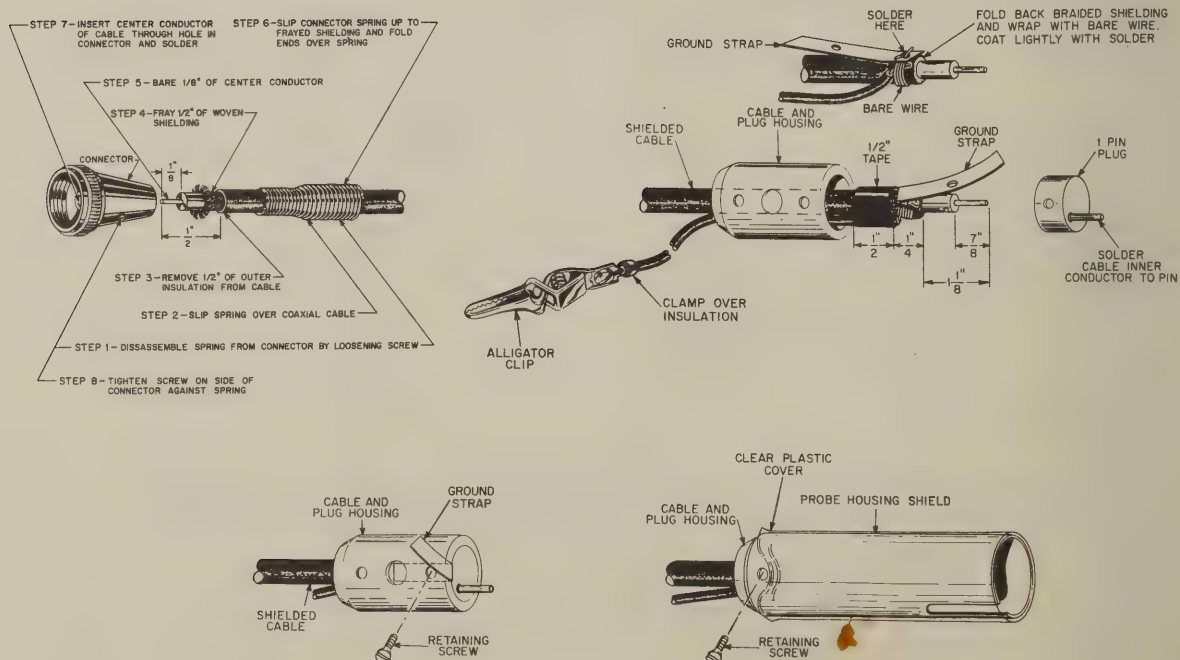

FIGURE 3. CABLE ASSEMBLY
## SEE FIGURE 3.
- ☒ Attach the connector to one end of the cable as shown in Figure 3.